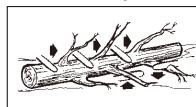

Fig. 12
Limb ing a tree is the process of removing the branches from a fallen tree. Do not remove supporting limbs (A) until after the log is bucked (cut) into lengths (Fig.12). Branches under tension should be cut from the bottom up to avoid binding the chain saw.